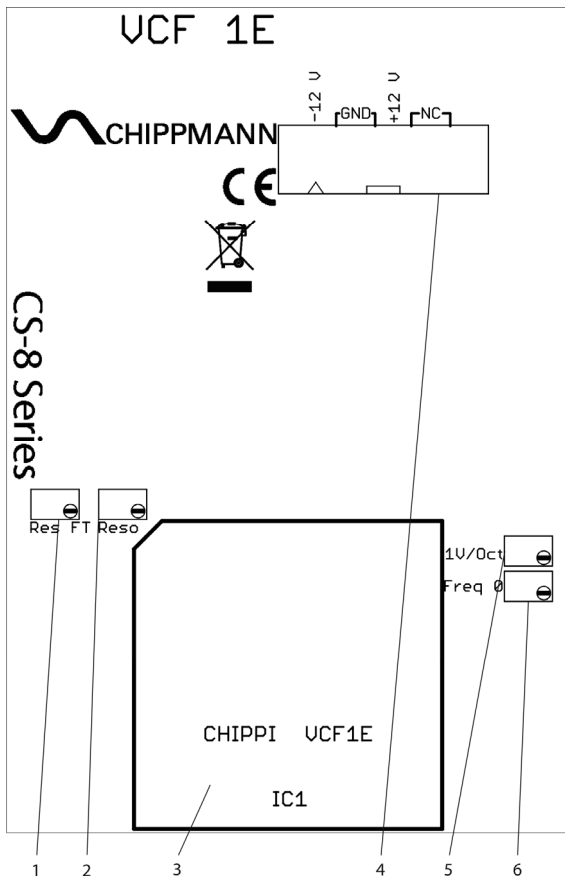

Fig. 2
Fig. 2 shows the back of the module with consecutively numbered elements.
The power connector's (4) pin-out in top view (refer to fig. 2) is assigned as follows:
To hook up power to the module, connect one of the IDC-jacks of the included flat ribbon cable to the connector (refer to fig. 2). Observe guide key for the polarity of the connector in order to avoid pin reversal. The **red tag** of the cable **is to match the triangle-label**.